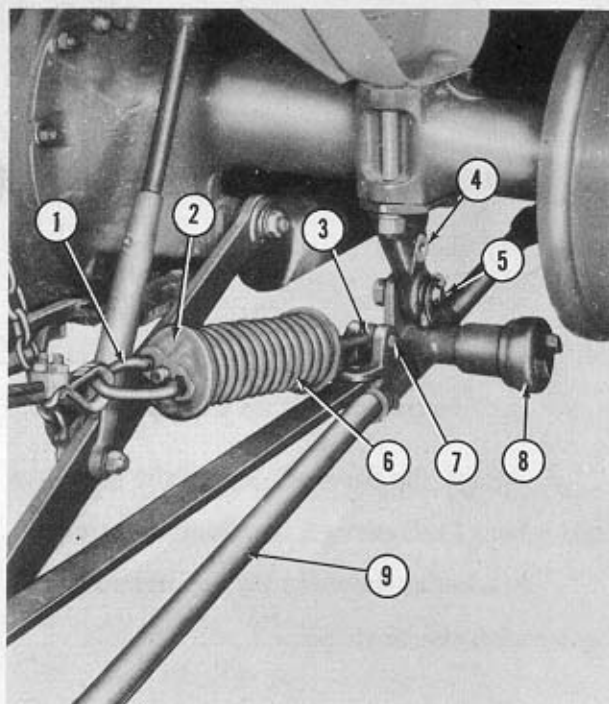

Figure 14
24. Turn the breakback housing (8), Figure 14, horizontal as shown and attach the pull bar pin (5) to the anchor bracket (4). Secure with the linch pin provided.
25. Turn the adjusting bolt (3), Figure 14, out of the balance spring (6) until it is flush with the spring cap (2) and attach the bolt (3) to the pull bar bracket with the pin (7) and cotter pin.
NOTE: The adjusting bolt (3), Figure 14, is manufactured with a bend in it so that when properly attached the balance spring (6) will be on the left side of the pull bar (9).
- d. Raise the right side of the mower main frame with the tractor leveling crank until the U-bolt (1), Figure 14, starts to pull out from the spring cap (2). As the mower is broken in it is probable that this adjustment will have to be repeated until